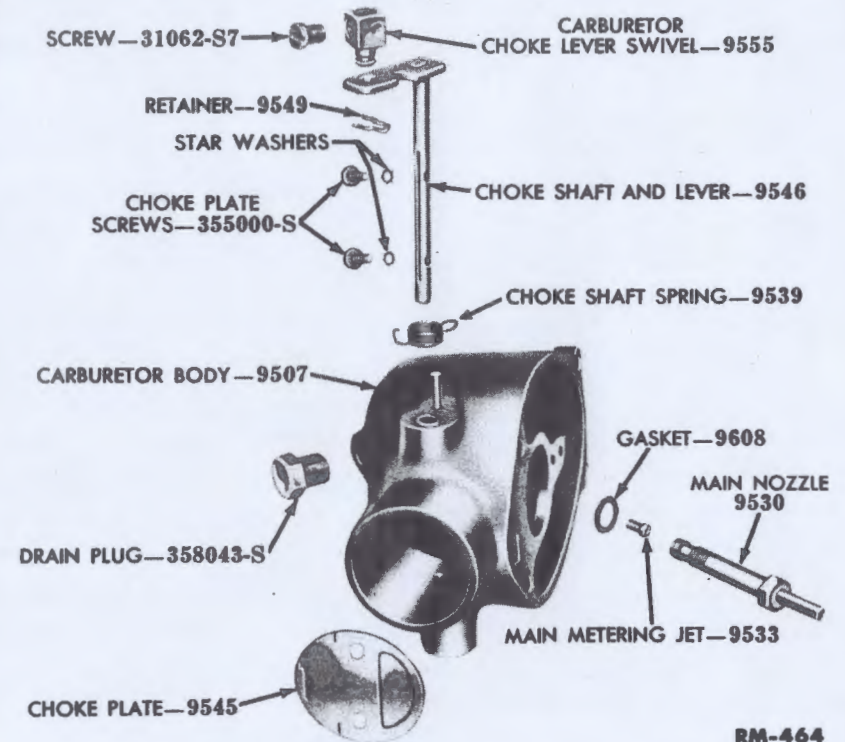

Figure 19—Carburetor Body, Disassembled
c. **Disassemble Carburetor Body.** Remove the main metering jet (fig. 19) with a screw driver or jet wrench. Remove the two screws and lock washers that secure the choke plate in the choke lever and shaft. Pull the choke plate out of the shaft with a pair of pliers. Remove the choke shaft and lever and choke return spring from the carburetor body.
d. **Choke Shaft and Lever.** Replace the choke shaft and lever (fig. 19) if the shaft is worn or bent, if the threads are stripped, or if the lever is damaged or loose on the shaft.
e. **Choke Plate.** Replace the choke plate (fig. 19) if the poppet valve spring is weak and will not hold the poppet valve closed.
carburetor body. Hook the choke return spring on the peg on the body and on the lever so that the choke shaft lever will rest on the peg. Install the choke plate in the choke shaft. While holding the choke plate in the closed position, install and tighten the two choke plate screws and washers. Install the maximum fuel limiting jet in the carburetor body (fig. 19) with a small screw driver or jet wrench. Install the main nozzle and new gasket.